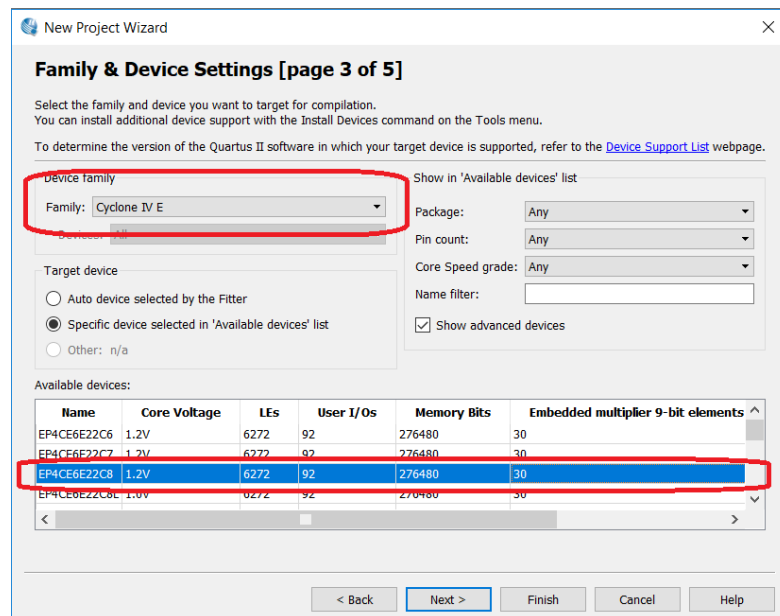

Figure 5. Fill in the family and device settings section
4. Click the next button so that the display appears in image 4. If we already have a file that will be involved in this project, then add the file to the box. However, because we don't have any files yet, has been created then click next so that the family & device settings appear. Select and fill in according to the device to be used. In this activity the device to be used is Cyclone IVseri 4 EP4CE6E22C8N. So fill it in as in Figure 5.